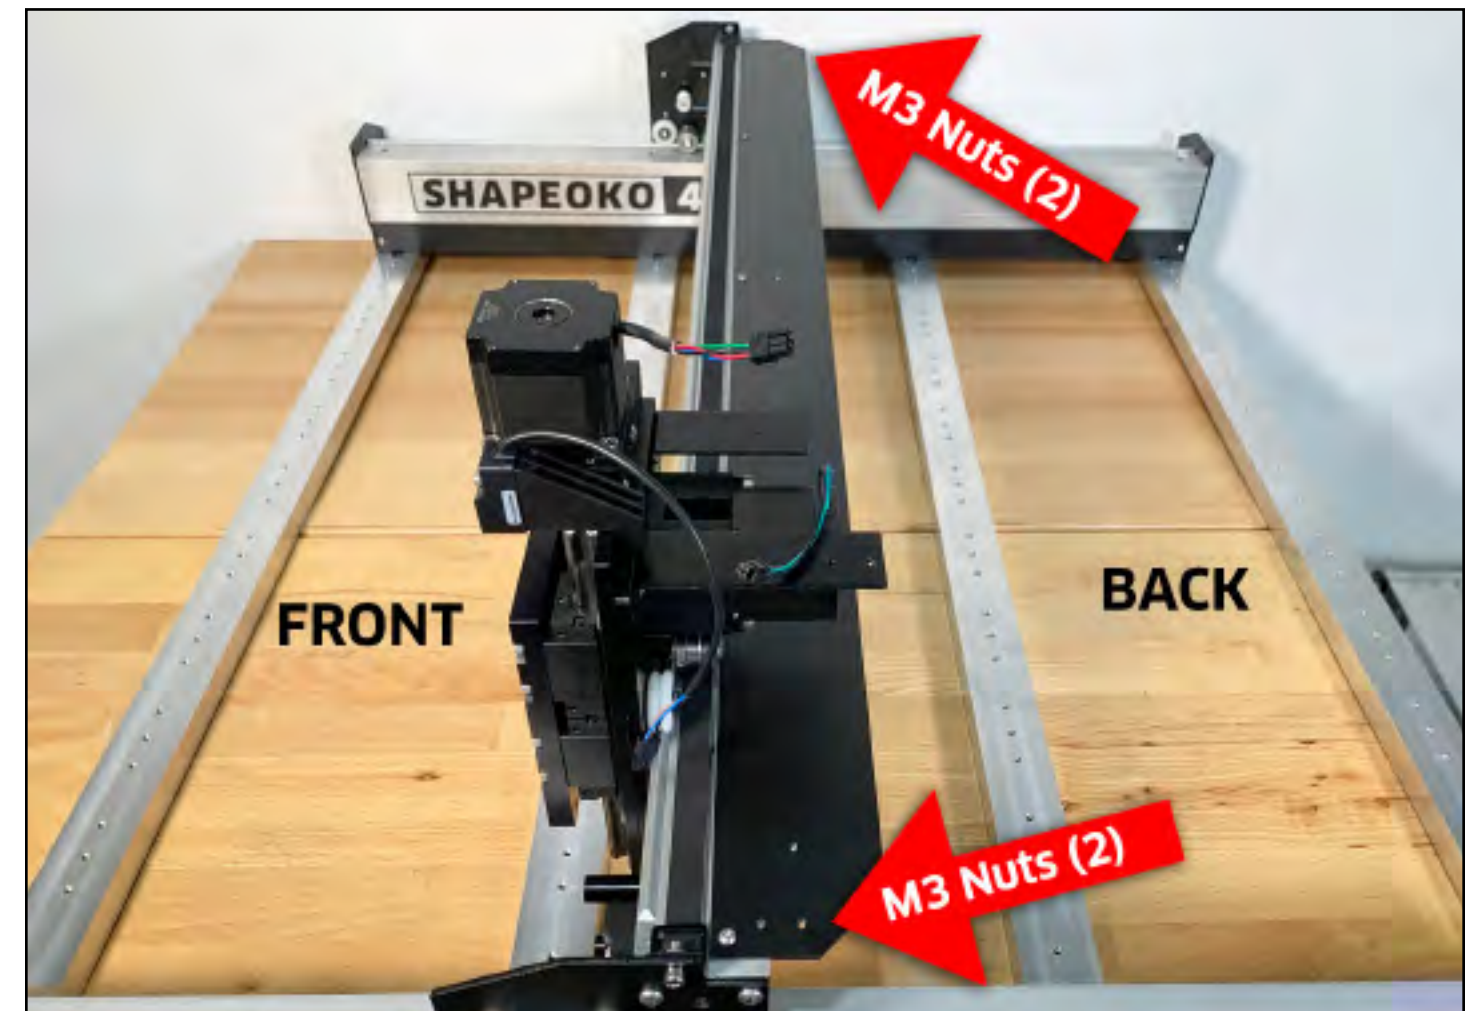

Figure 5-12
2. Use a 2mm hex key and three (3) M3×6mm BHCS to secure three cable tie mounts to three right-side up nuts along the center of the BACK-SIDE of the support panel.
4. Use a 2.5mm hex key and five (5) M4×6mm BHCS to secure the support panel to the gantry. See **Fig. 5-12**.